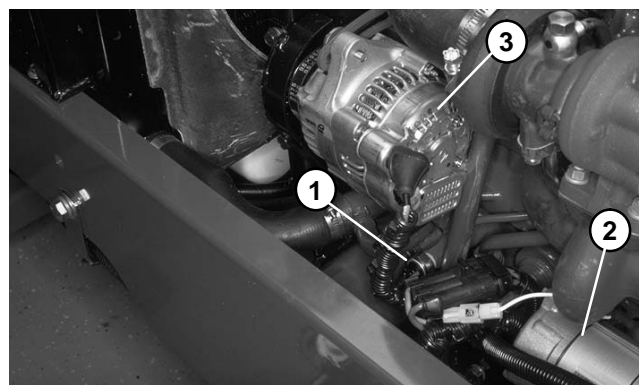
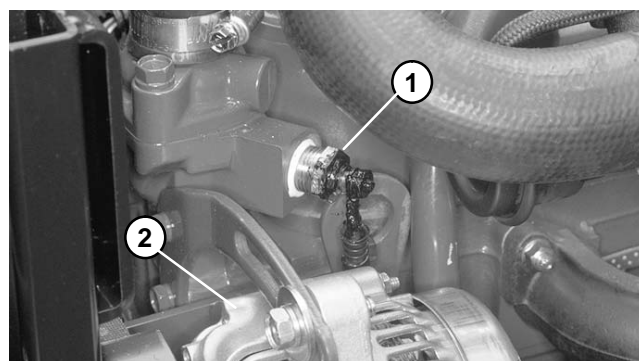

Figure 27
Figure 28
- A. The oil low pressure switch, starter, and alternator (Fig. 27). The temperature sender (Fig. 28).
- C. The temperature sender (Fig. 28). The oil low pressure switch, starter, and alternator (Fig 27).